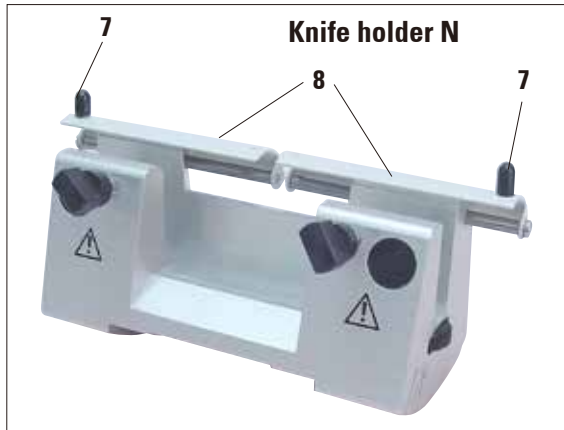

Fig. 4
The knife guard (8) of the knife holder N/NZ can be easily positioned via the two handles (7) (Fig. 4). To cover the knife edge, push both cover strips of the knife guard to the center.